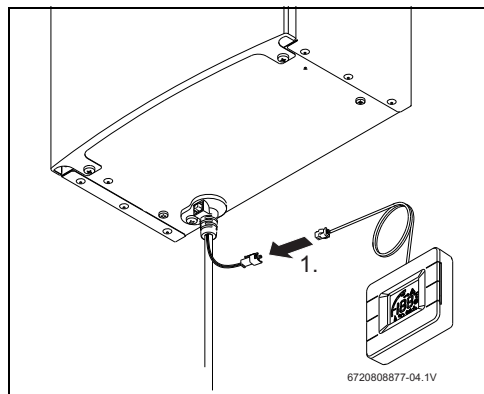

Fig. 7
- ▶ Connect the larger connector to the controller in the position shown in Fig. 7.